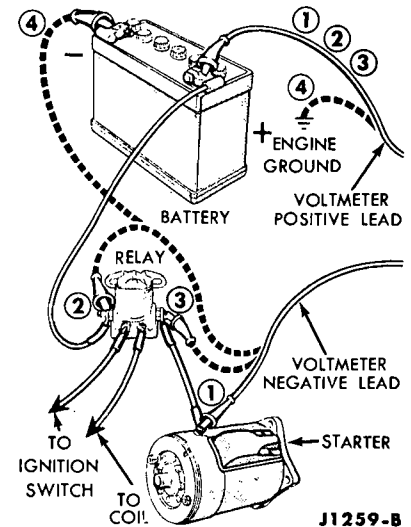

FIG. 8—Starter Cranking Circuit Test
1. With the voltmeter negative lead connected to the starter terminal and the positive lead connected to the battery positive terminal (Fig. 8, connection ①) 0.5 volt.
lead connected to the battery terminal of the starter relay and the positive lead connected to the positive terminal of the battery (Fig. 8, connection ②) 0.1 volt.
lead connected to the positive terminal of the battery (Fig. 8, connection ③) 0.3 volt.
4. With the voltmeter negative lead connected to the negative terminal of the battery and the positive lead connected to the engine ground (Fig. 8, connection ④) 0.1 volt.